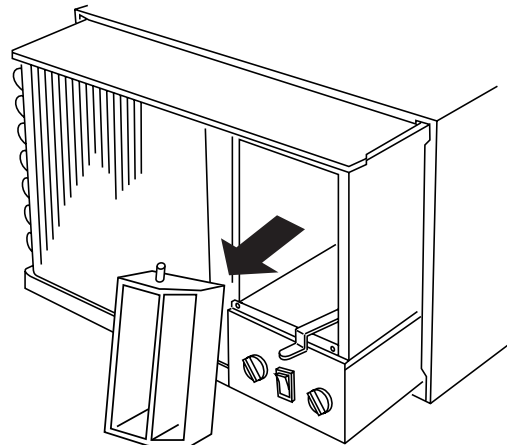

Fig. 8
- (1) Remove the air deflection grille. (Fig. 8)